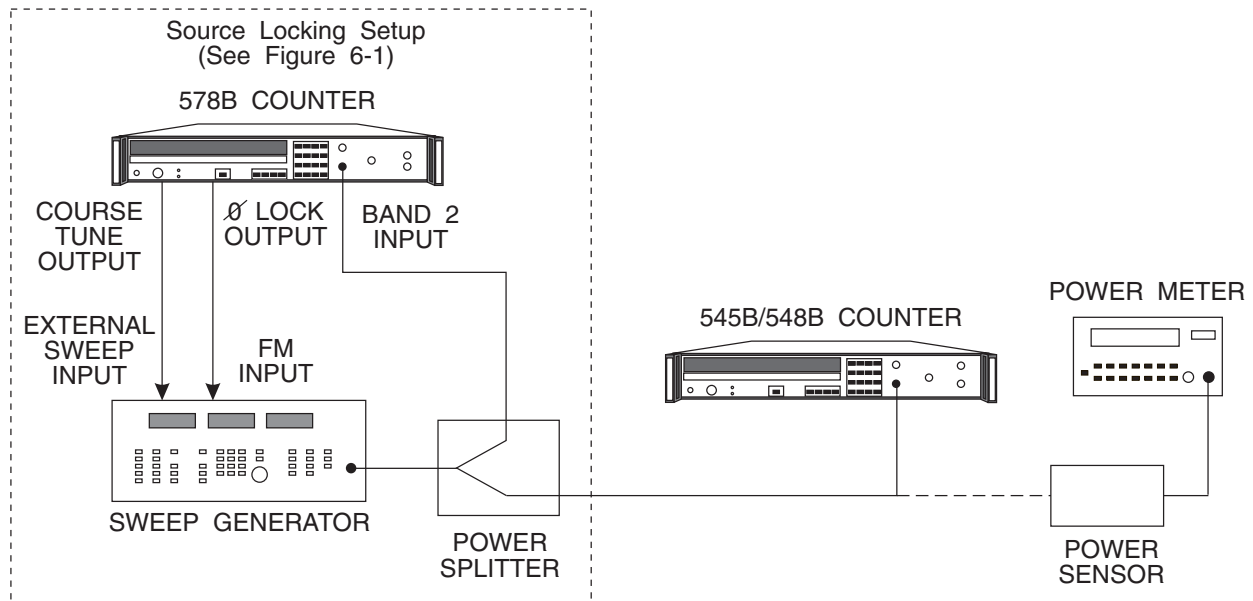

Figure 5-4. Band 2 Range and Sensitivity Test Setup
1. Connect equipment as shown in Figure 5-4.